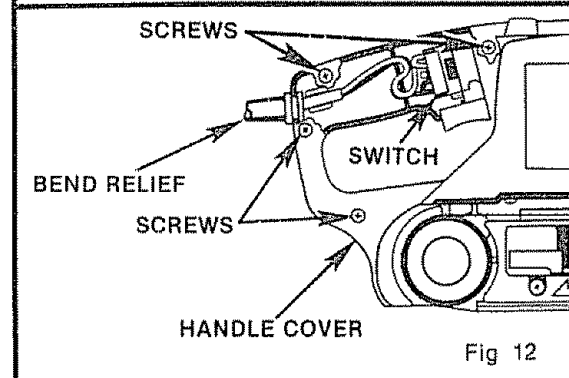

Fig. 12
- 1 Remove the handle cover and screws. **NOTE THE LOCATIONS OF ALL WIRING IN THE HANDLE AND HOW EACH CONNECTION IS MADE TO THE SWITCH.** Connections and wiring position must be identical when installing the new switch. See Figure 12.
- 4 Arrange the wiring in the handle so that it will not be pinched or contact screws when the handle cover and screws are replaced, then position the switch in place. See Figure 12.
- 5 Place the cord and bend relief in their correct locations. See Figure 12.